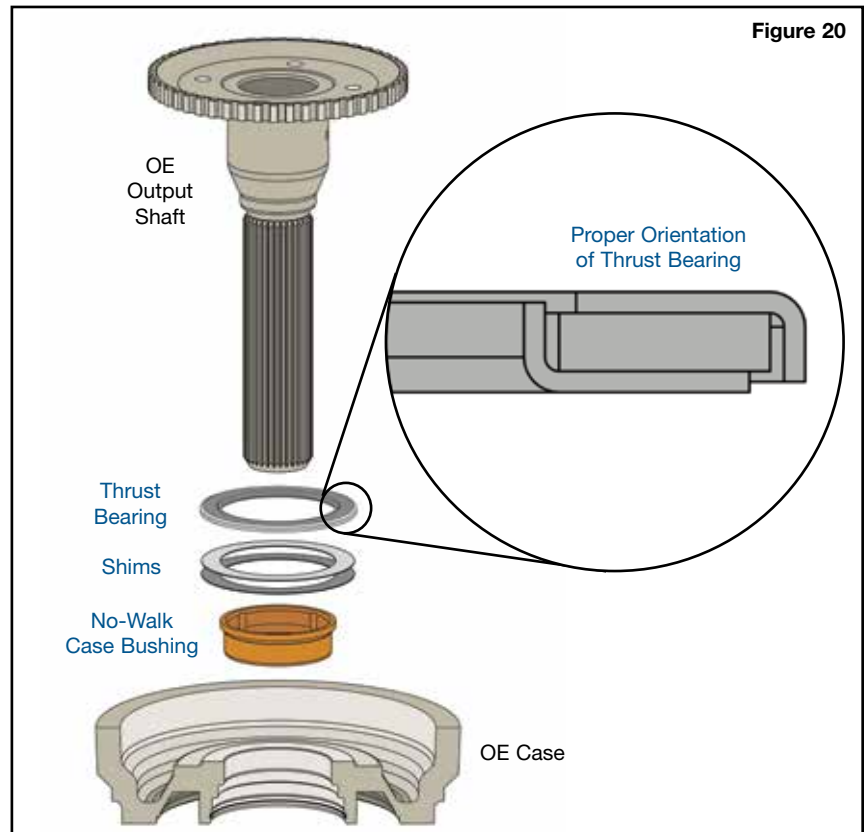

Figure 20
- Install Sonnax thrust bearing around the bushing's flange and against the shims in proper orientation (Figure 20).